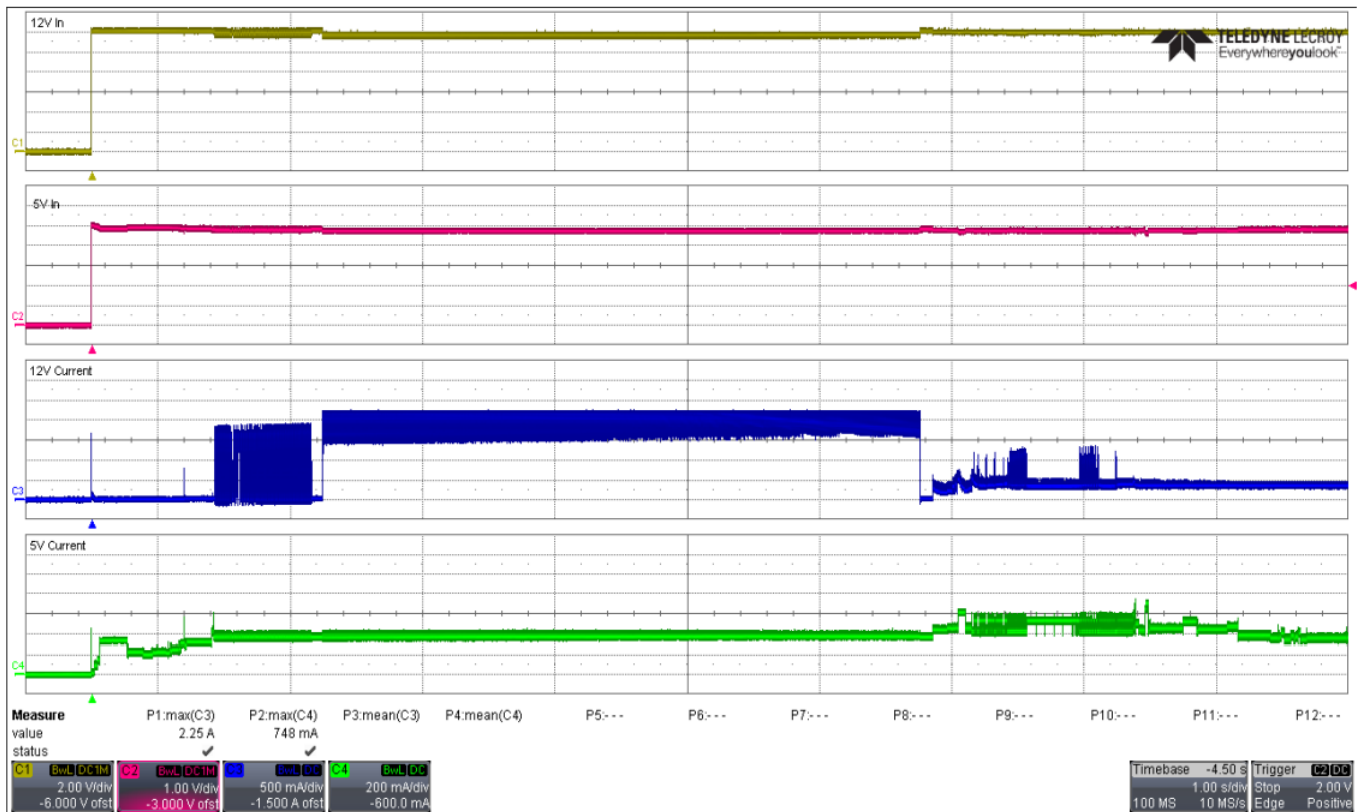

Figure 1. Exos X24 current profiles.
3. See +12V current profile in Figure 1.